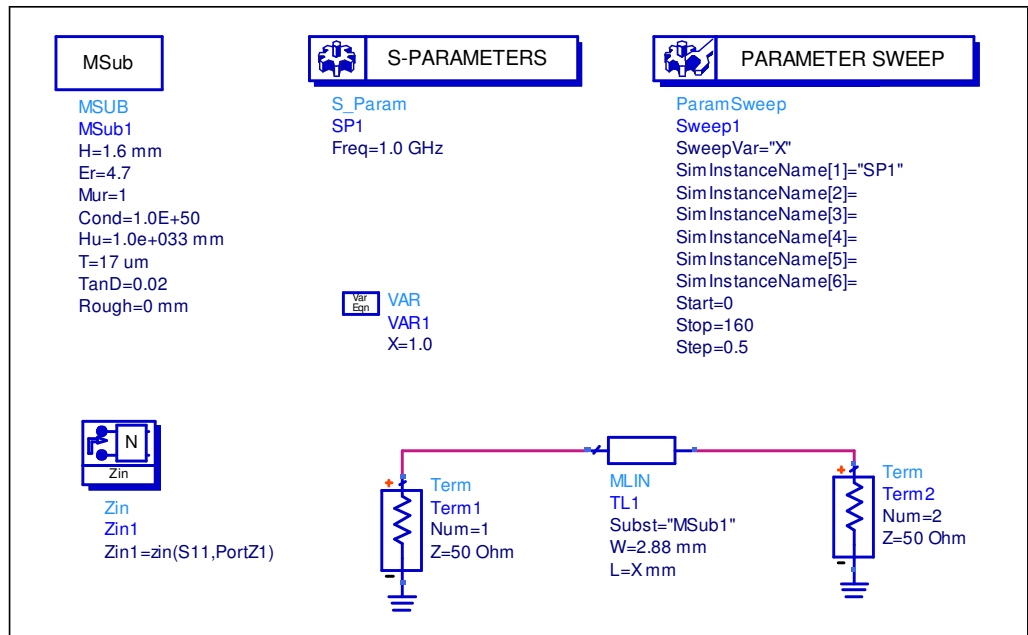

Figure 7 - 50 ohm transmission line.
1. Draw a 50Ω transmission line terminated by 50Ω load, as shown in Figure 7.
Table-2, list for Figure 7